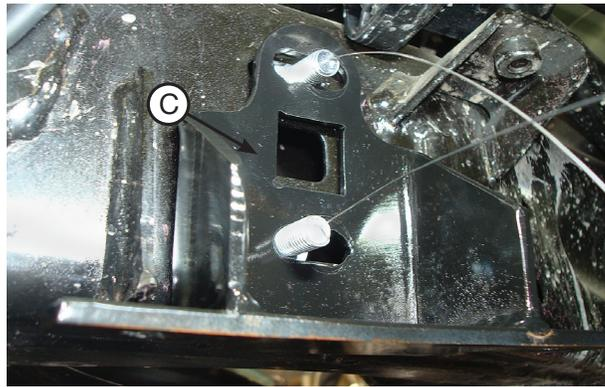

Fig. 11
3. Once the carriage bolts are in position, insert the tools through the holes in the brace (C) (Fig. 11) and push the brace up against the frame.